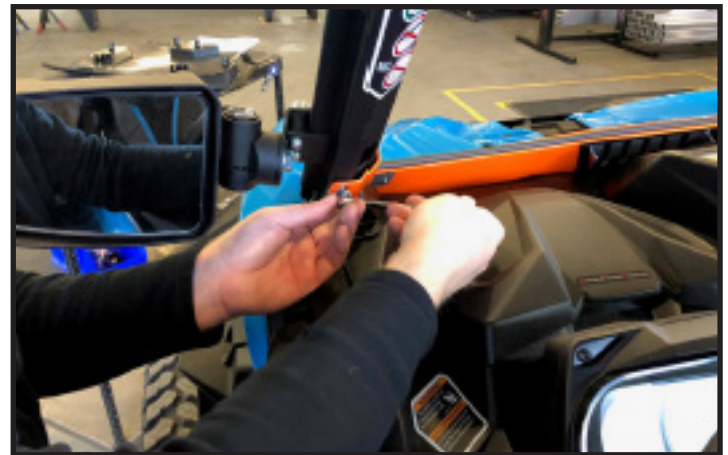

Fig. 4
Tighten the top (2) bracket mounts of the “Bottom Windshield Plate” with the hardware provided. (Fig. 4)